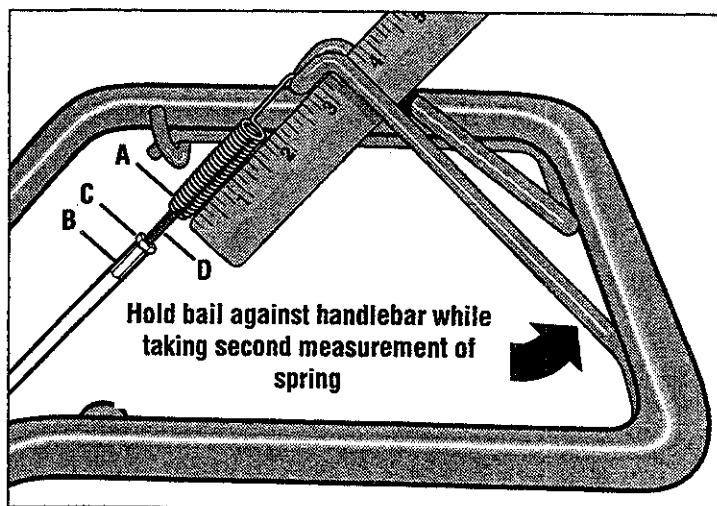

Figure 5-4: Checking forward belt tension.
2. With the forward clutch bail in an open (released) position, measure and carefully note the overall length of the cable spring (A, Figure 5-4) by measuring from the outermost coil to the outermost coil.
3. Lift and hold the forward clutch bail against the handlebar (see Figure 5-4) and re-measure the overall length of the coils while the spring is under tension. The belt tension is correct if this second measurement is between 1/16" -to- 3/16" longer than the first measurement.
- b. Unthread the hex nut (C, Figure 5-4) about halfway up the adjustment screw (D).
- d. Use pliers to prevent the adjuster (B) from turning and turn the slotted screw clockwise (viewed from operator's position) to increase tension on the spring. Turn the screw counter-clockwise to decrease tension on the spring. Once adjusted, re-hook the top of the spring to the forward clutch bail. (Continue to Step 5e.)
- e. Repeat Steps 2 and 3 to remeasure the length of the spring coils. When the second measurement (with bail closed against handlebar) is between 1/16" -to- 3/16" longer than the first measurement, retighten the hex nut (C) against the top of the adjuster (B).